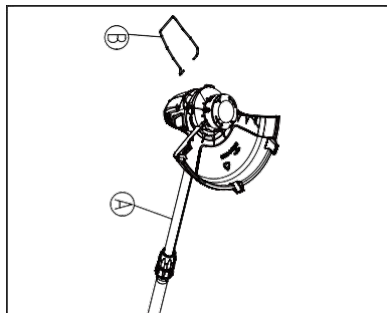

Fig. 3
- b). Once the guard has been put into place, attach the edge guide (B) into the holes mounted on either side of the front of the motor housing. The guide requires slight stretching for installation, allowing each end to snap into its respective hole. (See Fig. 3)